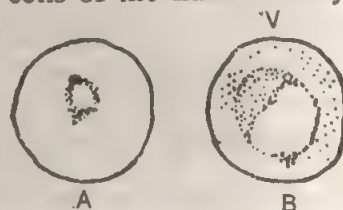

Fig. 8.6 *Plasmodium* causes *Malaria*.
(1) **Malaria.** This is again caused by a protozoan called Plasmodium (Fig. 8.6) which lives as a parasite within the red blood cells of the human body.